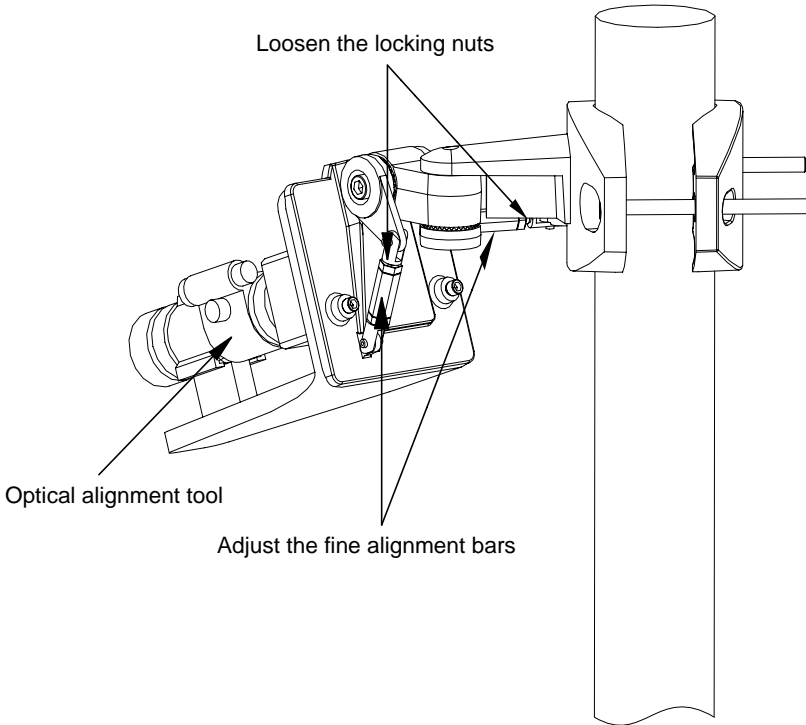

Figure 4. Fine alignment
2. View the far end with the optical alignment tool. Align the bracket towards the far end by adjusting the fine alignment bars shown in Figure 4.